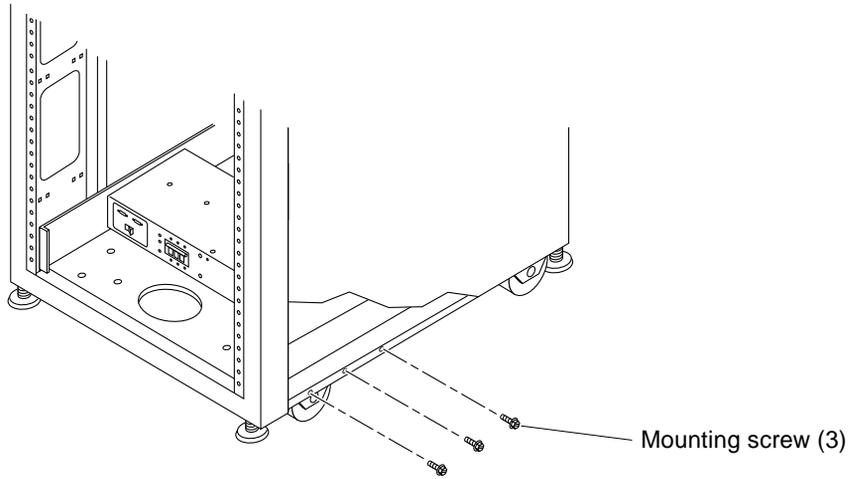

FIGURE 3-5 Removing the Mounting Screws
1. **Remove the three mounting screws on the bottom right of the rack (FIGURE 3-5).**